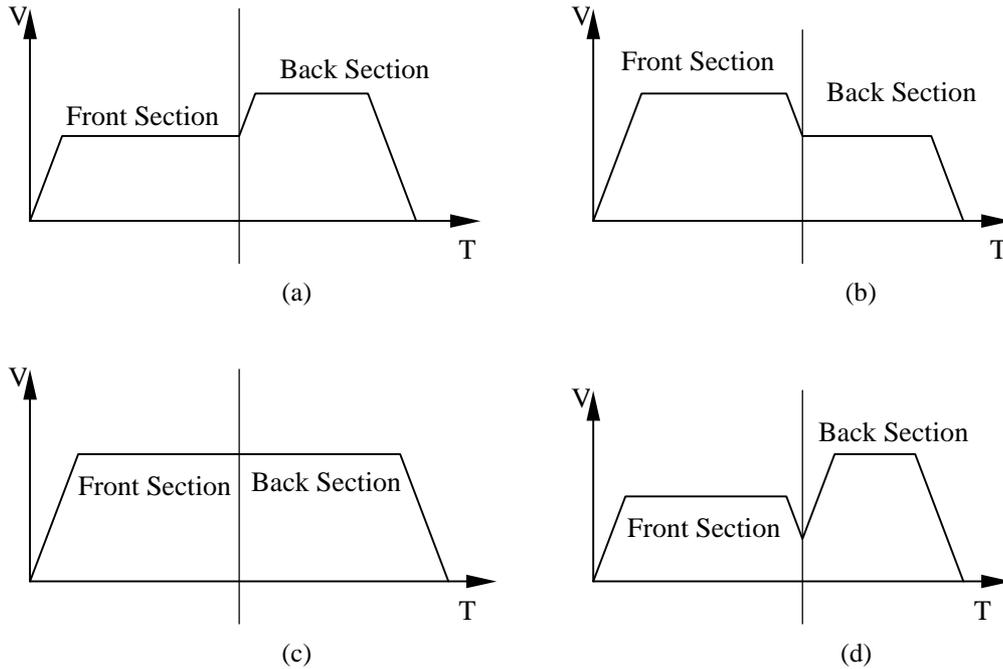

Fig. 5-4 Velocity Strategy at Track
**Strategy One:** At the joint of two segments, the natural transition of the two segments should be considered at first. The vector velocity should accelerate and decelerate according to specified velocity and acceleration. At the same time, it is necessary to confirm that the transformation of velocity in each relevant motor axis doesn't exceed the acceleration limit specified for each axis. Otherwise, another strategy should be applied (strategy two). If the vector velocity for each segment in two segments specified by the user is different, such strategy should be applied (Figure 5-4\(a\)\(b\)\(c\)): the deceleration part is happened in the first segment, and the acceleration part is happened in the second segment. This will assure that, the motion vector velocity at any segment will not exceed the target vector velocity specified by user.
**Strategy Two:** At the joint of two segments, if the situation described in Strategy One is happened, an appropriate vector velocity at the turning point should be calculated, and decelerate the vector velocity as little as possible at the premise of satisfying the acceleration limit of each axis at turning point, to avoid large velocity transformation at the joint to the best. At this situation, the velocity transformation strategy is also like the description above Figure 5-4\(d\): the deceleration part is happened in the first segment, and the acceleration part is happened in the second segment.